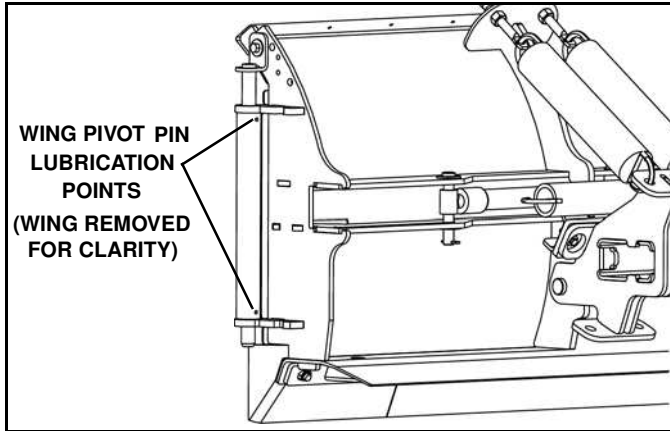

Figure 1-42
4. Fold the wings slightly and apply oil or grease to the wing pivot pins through two lubrication holes provided in each pin housing. (See Figure 1-42).